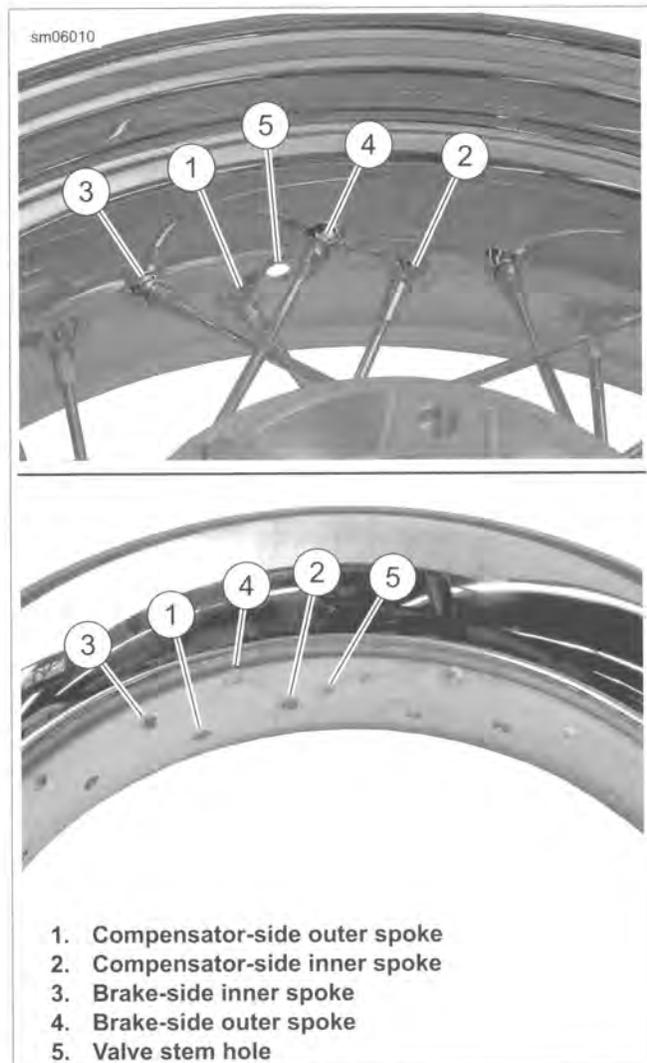

Figure 2-22. Begin Lacing
See Figure 2-22. It is recommended that the first spoke be installed near the valve stem hole (5). Place spoke nipples through several rim holes to determine the hole direction. Only one spoke will fit into the spoke nipple correctly. When connecting the spoke to the spoke nipple, finger tighten two to three threads.
9. See Figure 2-22. Begin with the outer spokes (short-head) of the lower (compensator) flange. Using the spoke alignment method discussed previously, locate a spoke hole (1) just left of the valve stem hole (5) that points toward an outer spoke.
10. Install the lower (compensator) flange inner spokes (long-head) next. Choose a beginning spoke (2) near the valve stem hole (5).
12. See Figure 2-22. Choose a beginning spoke near the valve stem hole (5). Start with a top flange inner spoke (3) (long-head) first.
13. Install upper flange outer spoke (4) (short-head).